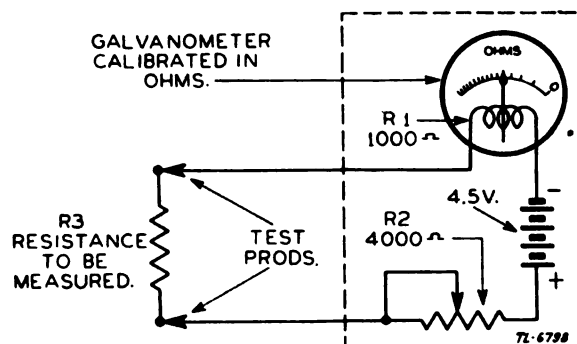

Figure 5. The galvanometer as an ohmmeter.
c. *The Output Meter.* (1) This instrument is an a-c voltmeter, usually calibrated in volts. When used as an output meter it indicates comparative voltage readings. An application of this would be in the alignment procedure of a radio set, where it is merely used to indicate a maximum swing of the needle for a given condition, such as resonance in a tuned circuit through which a signal is passing.
(2) A series capacitor self-contained in the instrument is supplied for taking output readings directly from the plate circuit of any vacuum tube. The capacitor isolates the instrument so that d-c potential will not cause damage. When taking a-c readings, never use the series capacitor if actual voltages are to be measured, as the impedance of the capacitor will vary with frequency and therefore will materially upset the calibration of the instrument. Where comparisons are made in output, the capacitor may be used provided the variations in audio frequency are not a factor.
a. *General.* (1) The galvanometer may be used to measure resistance if it is connected as shown in figure 5. It has been shown that if a galvanometer is placed across a source of voltage, the amount of current flowing through the meter depends upon the resistance of the meter circuit. In the case of the voltmeter, the resistance was fixed so that the voltage could be measured. In the case of the ohmmeter, the voltage is fixed so that
(2) Suppose the same galvanometer that was used as a voltmeter is to be used as an ohmmeter. The meter-coil resistance R_1 will then be 1,000 ohms, and a current of 1 milliamperes flowing through the coil will cause full-scale deflection. If the battery used with the ohmmeter has a terminal voltage of 4.5 volts as in figure 5, the resistance in the meter circuit for a current flow of 1 milliamperes must be 4,500 ohms. If 1,000 ohms of the resistance is in the coil of the meter, 3,500 ohms must be added to the circuit. This is accomplished by R_2 , a variable resistor with a maximum resistance of 4,000 ohms. R_2 is then adjusted to a value of 3,500 ohms. But R_3 , the resistance to be measured, is also in the circuit. If R_3 is shorted out and R_2 is adjusted to exactly 3,500 ohms, the meter will indicate full-scale deflection. This corresponds to a reading of zero ohms since the value of R_3 when it is shorted out is zero ohms. Full-scale deflection on the scale may then be calibrated as zero ohms. If the short across R_3 is removed, resistance will be added to the meter circuit and cause less current to flow through the meter. This means that there will be less deflection of the needle on the calibrated scale. If R_3 has a value of 4,500 ohms, the total resistance in the meter circuit will be 9,000 ohms, exactly twice the previous value for full-scale or zero-ohms deflection. Therefore the current will be one half of what it was before, and the meter will read half scale. The half-scale mark on the meter will then correspond to 4,500 ohms and may be calibrated as such. Various values of R_3 will then cause various deflections on the meter scale which, if calibrated in ohms, will indicate the value of the resistance under test.